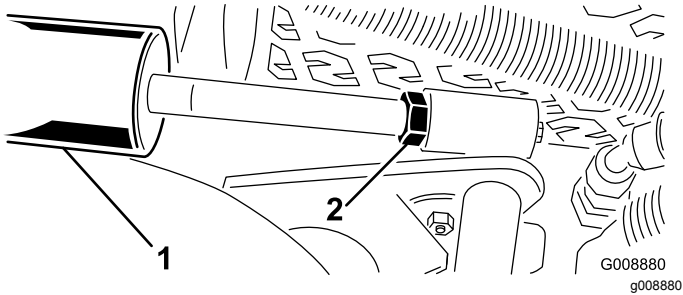

**Figure 28**
3. Start the engine, raise the lift arms, and check to ensure that the clearance between the wear strap on the top of the rear cutting unit wear bar and the bumper strap is 0.51 to 2.54 mm (0.02 to 0.10 inches) as shown in Figure 28.